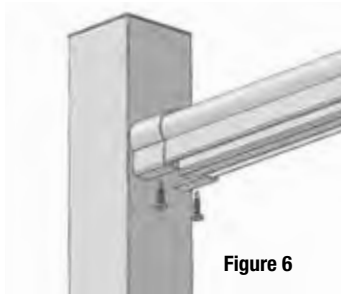

Figure 6
Using the two pre-drilled holes under the top post bracket, fasten the top rail to the top post bracket with (2) #10 x 3/4-in screws (Figure 6).